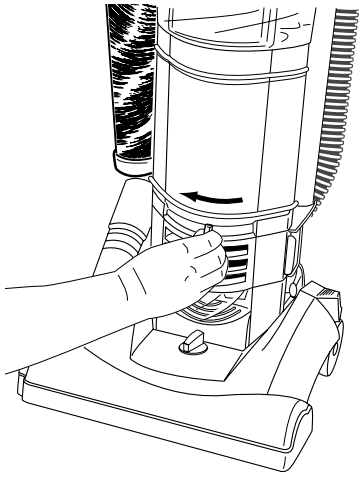

FIG. 11
Step 1: Remove dust cup by sliding dust cup lever from right to left (FIG. 11).